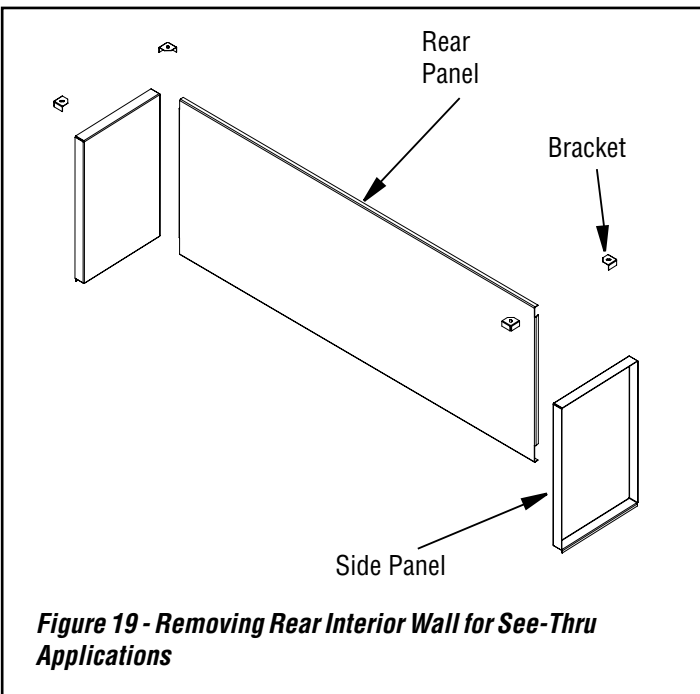

Figure 19 - Removing Rear Interior Wall for See-Thru Applications
1. Through firebox opening in the front of the fireplace, unscrew 4 corner brackets from the firebox top (*See Figure 19*).